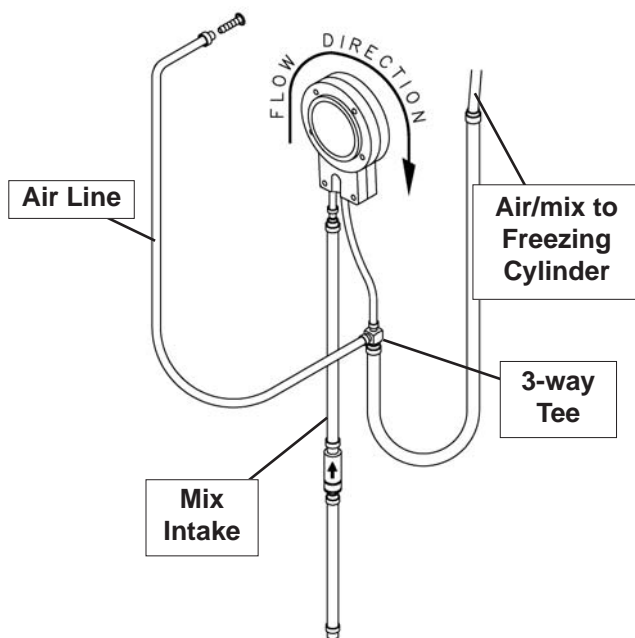

Figure 3-15 Mix Pump Hose Routing
- A. Mix Operation: The peristaltic mix pump contains one continuous mix pump hose. When looking at the face of the peristaltic mix pump, the left side of the hose is the suction or pickup. The right side of the hose is the discharge. Mix is drawn up the suction side of the hose and transferred through the discharge side to the machine (see Figure 3-15).